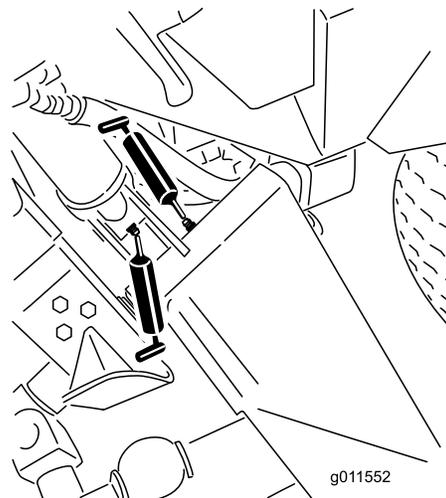
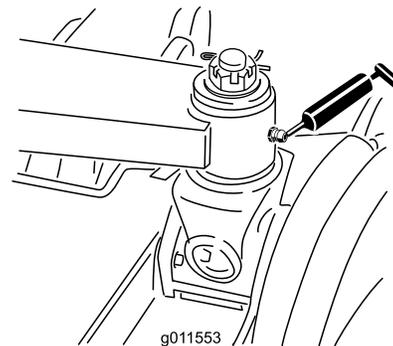

Figure 84
Figure 85
- 6 main lift-arm bushings (Figure 84 and Figure 85)